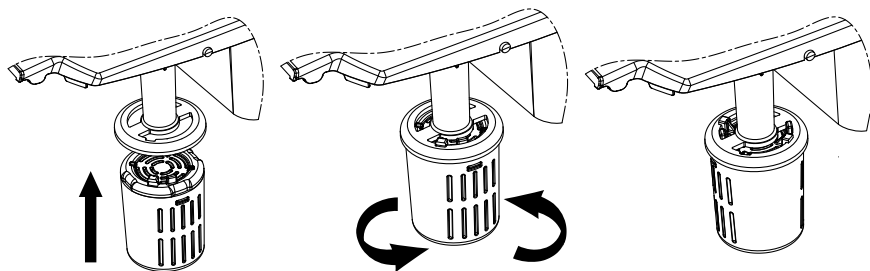

Figure 9
- Insert the mineralizer in the bracket of the collection bowl aligning the tabs on the mineralizer with the slots in the bracket, and turn it all the way counterclockwise, as shown in Fig. 9.